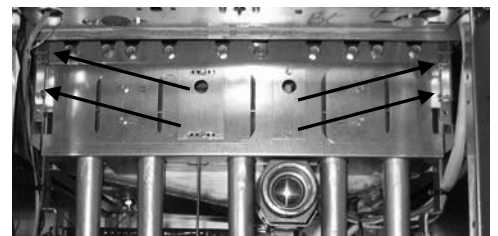

Figure 2
3. Remove the air shutter plate if applicable by removing the four screws in the four corners as shown in Figure 2.